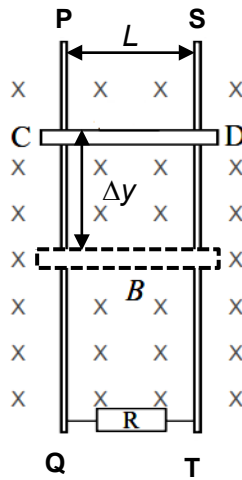

Fig. 1.2
- (b) Fig. 1.2 below shows the rod descending a distance Δy in a time Δt at constant speed v_T .